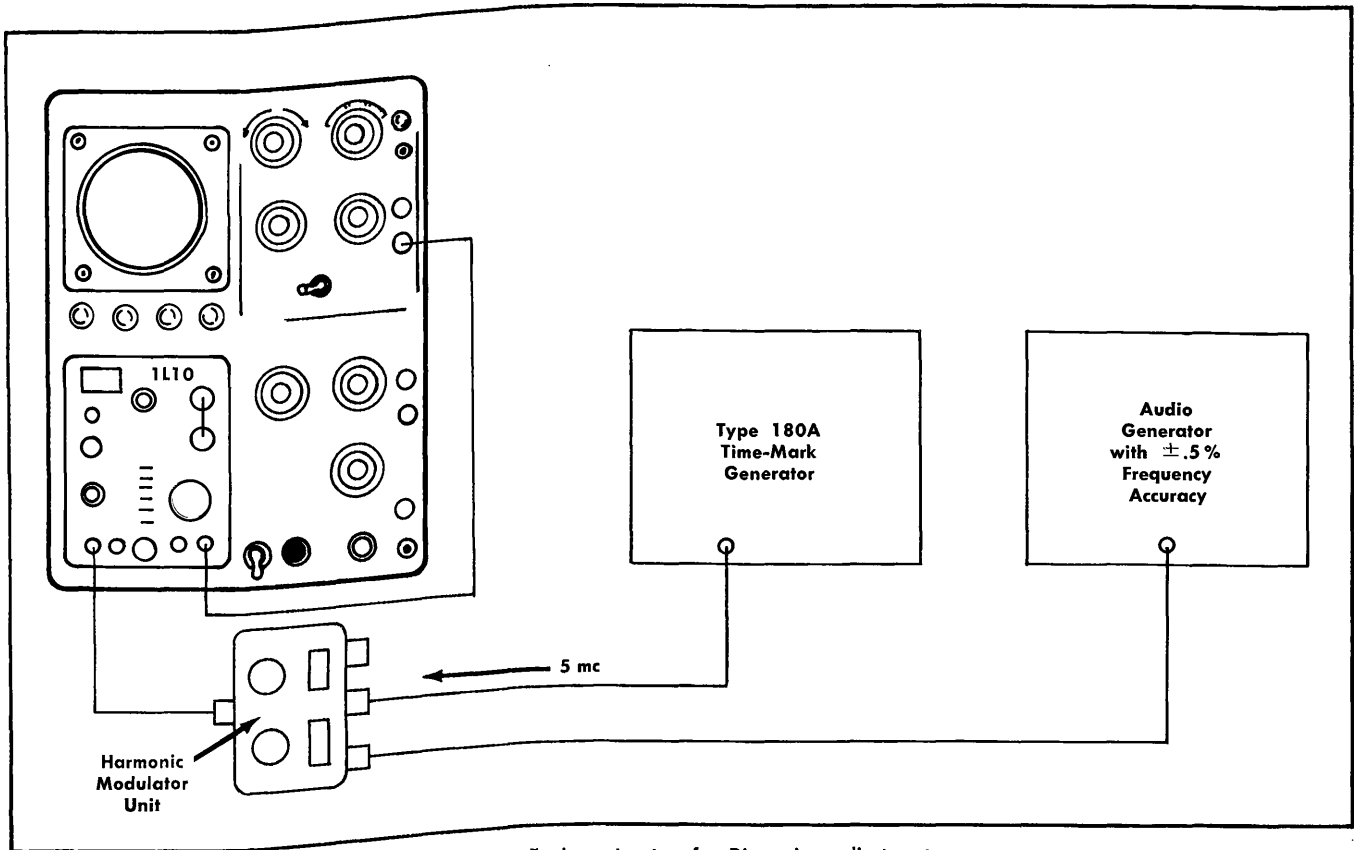

Fig. 4-17. Equipment setup for Dispersion adjustment.
a. Connect the equipment shown in Fig. 4-17.